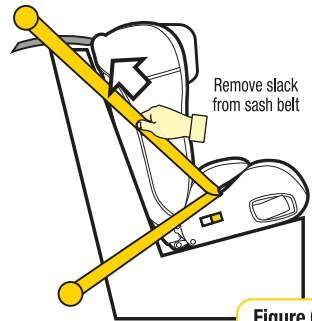

Figure 6
Step 3: Push down on the base of the restraint (with knee or hand) whilst pulling the sash section of the vehicle belt firmly up in direction of the yellow arrow in figure 4. This will make the lap belt very tight across the seat base. Whilst continuing to pull the sash section up (i.e maintaining tightness of the lap section), Tighten sash section of belt across the base (refer Figure 6).